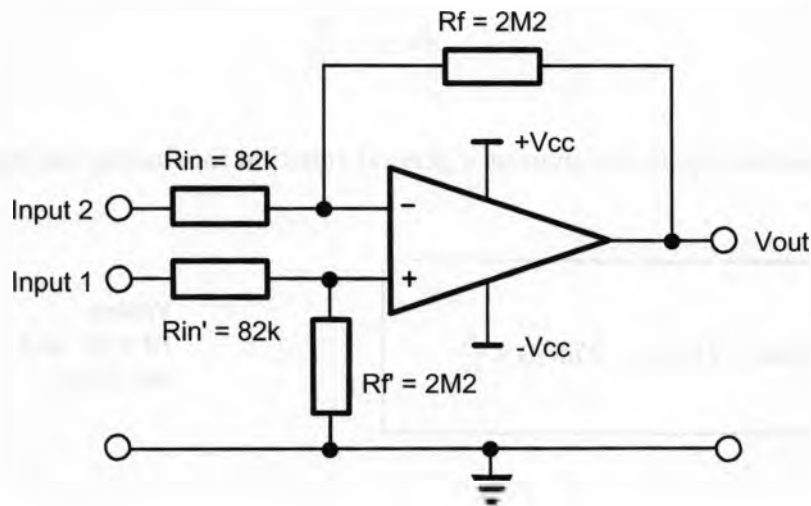

Figure 3
1. What is the output voltage of a the differencing amplifier in Figure 3 if $V_{in(1)} = +900\text{mV DC}$ and $V_{in(2)} = +1.3\text{V DC}$?
2. What must $V_{in(1)}$ in Figure 3 have changed to if V_{out} changed to +6V?
3. What is the output voltage of a the differencing amplifier in Figure 3 if both $V_{in(1)}$ and $V_{in(2)} = -320\text{mV DC}$?